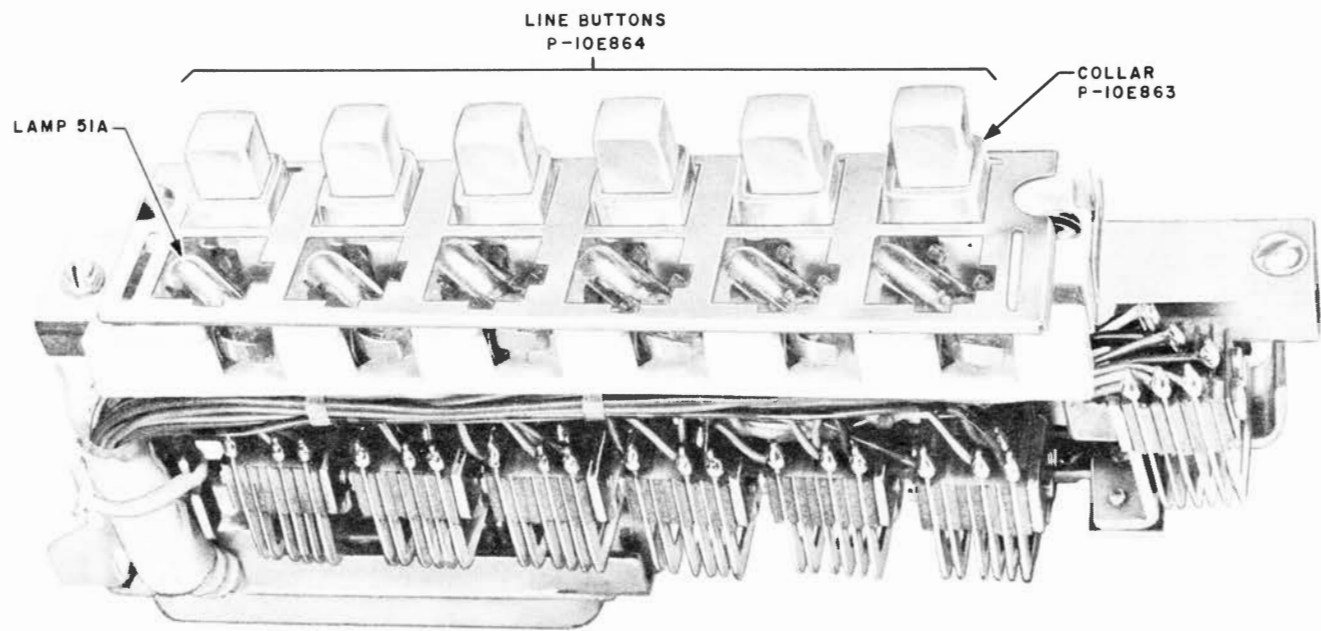

Fig. 3 - 598A Key
**3.04** The 598A key module (see Fig. 3) consists of six convertible locking-type buttons and lamps for illuminating each button and its adjacent designation area. The buttons may be converted from locking to nonlocking for signal use by removing the P-10E837 screws as necessary. (When keys are converted to nonlocking, use the P-11E977 insulating details to insulate the two contacts adjacent to the key plunger.) All buttons are interlocked mechanically so that operation of a pickup button will release any previously operated button. A chaining switch consisting of